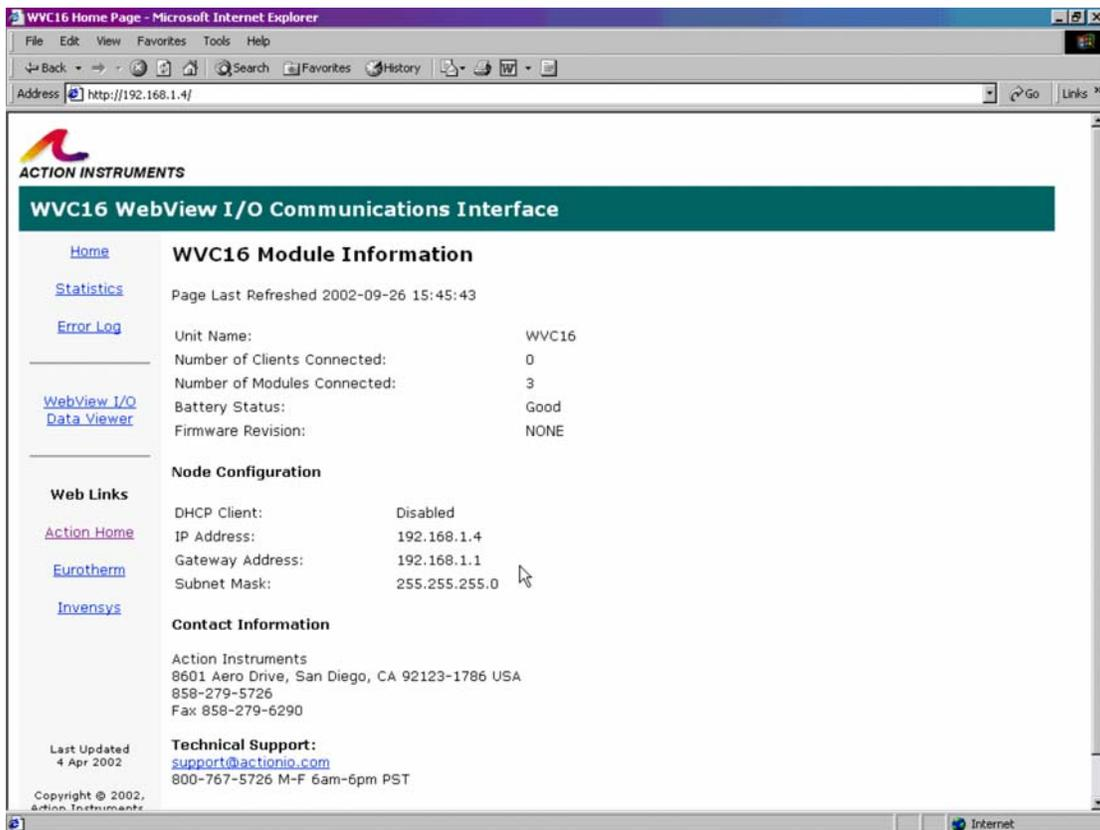

FIGURE A3
6. Verify that the WVC16 home page is correctly displayed as shown in Figure A3.